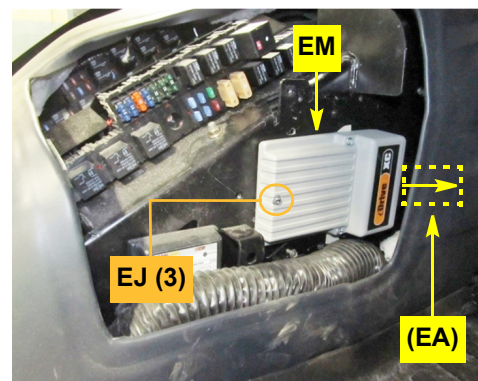

Figure 2b: ECU installed (EA connected)
- b. Connect main cable **EA** (not visible in Figure 2b) to ECU **EM**. Pass the cable rearward into the fender well compartment toward the back of the cab then, threading bolts **EJ** into the welded nuts on the mounting frame (only three will align with the holes in the ECU—see note following), install ECU **EM**.